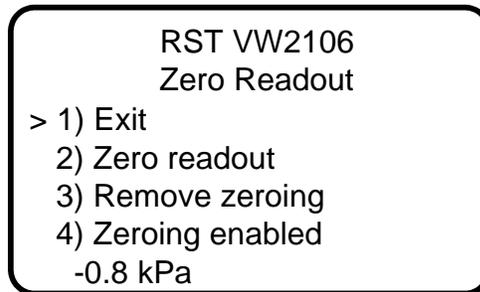

FIGURE 5-8 ZEROING OPTIONS
5. Press **Enter** to accept the value displayed or press **ESC** for more options (Figure 5-8).